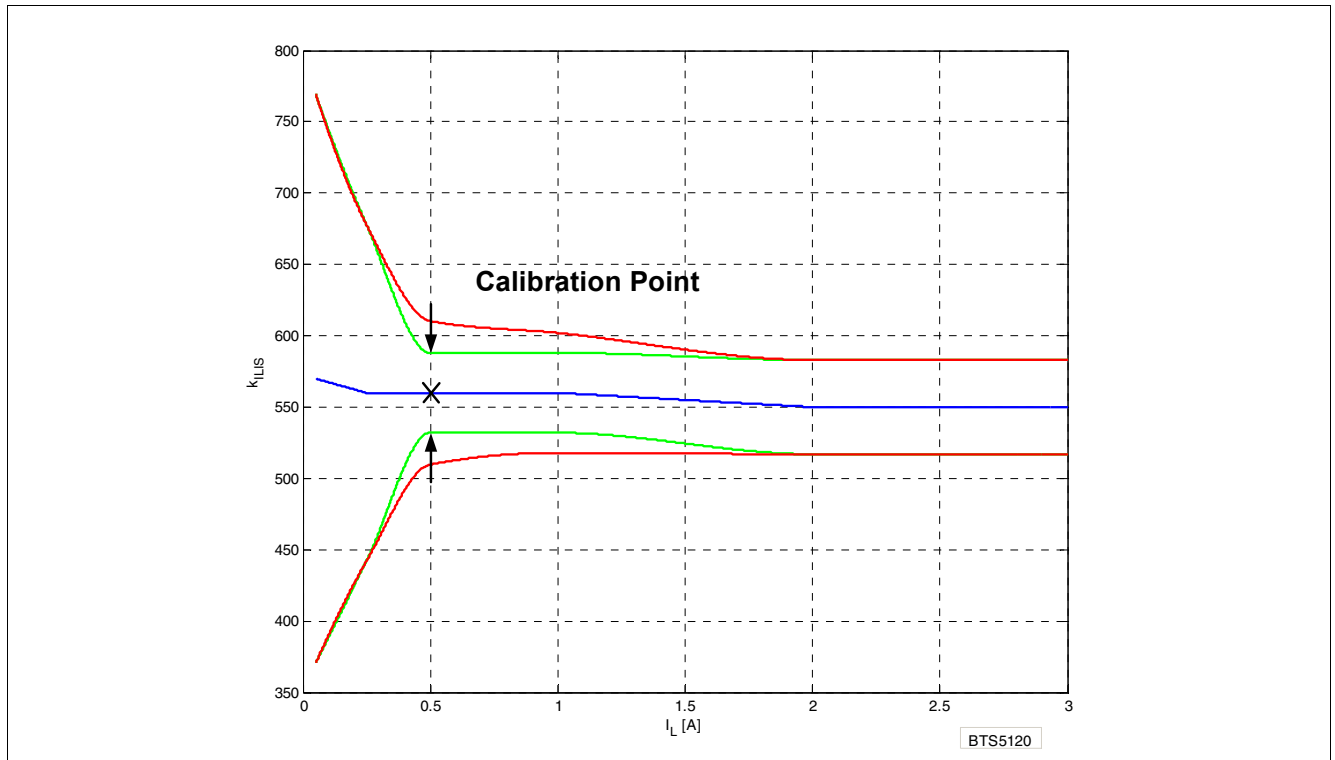

Figure 22 Improved SENSE Accuracy with One Calibration Point
**Figure 21** and **Figure 22** show the current sense as a function of the load current in the power DMOS. Usually, a pull-down resistor  $R_{IS}$  is connected to the IS pin. This resistor has to be higher than  $560\ \Omega$  to limit the power losses in the sense circuitry. A typical value is  $1.2\ k\Omega$ . The blue curve represents the ideal SENSE, assuming an ideal  $k_{ILIS}$  factor value. The red curves show the accuracy the device provides across full temperature range, at a defined current.
In some applications a better accuracy is required around half the nominal current  $I_{L(NOM)}$ . To achieve this accuracy requirement, a calibration on the application is possible. To avoid multiple calibration points at different load and temperature conditions, the BTS5120-2EKA allows limited derating of the  $k_{ILIS}$  value, at nominal load current ( $I_{L3}$ ;  $T_J = +25\ ^\circ\text{C}$ ). This derating is described by the parameter  $\Delta k_{ILIS}$ . **Figure 22** shows the behavior of the SENSE current, assuming one calibration point at nominal load at  $+25\ ^\circ\text{C}$ .